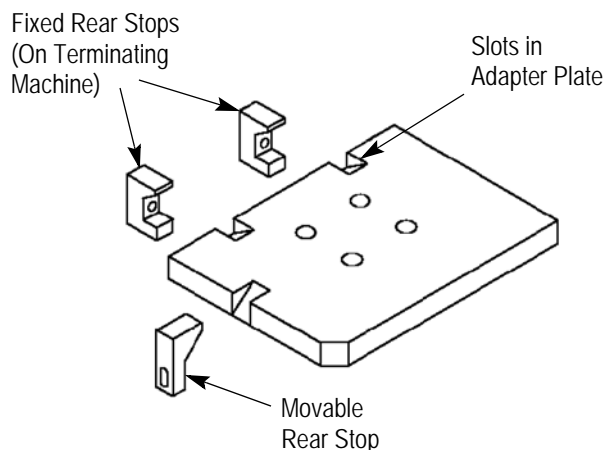

Figure 3
(seated in the upper groove in the lower adjuster) after installation as described in Step 9. See Figure 3, Detail A.
5. Slide the notcher onto the base of the terminating machine. Make sure to orient the notcher according to the type of notching being used (refer to the instructions packaged with the notcher). Align the slots in the adapter plate with the fixed rear stops on the terminating machine. See Figure 3, Detail B.
9. For end notching, make sure that the notcher cable stop plate is located against the dowel posts. For feed-through notching, remove the cable stop plate from the notcher. Lift and rotate the upper adjuster 90°. Make sure that it is fully seated in the lower adjuster (refer to Figure 3, Detail A).